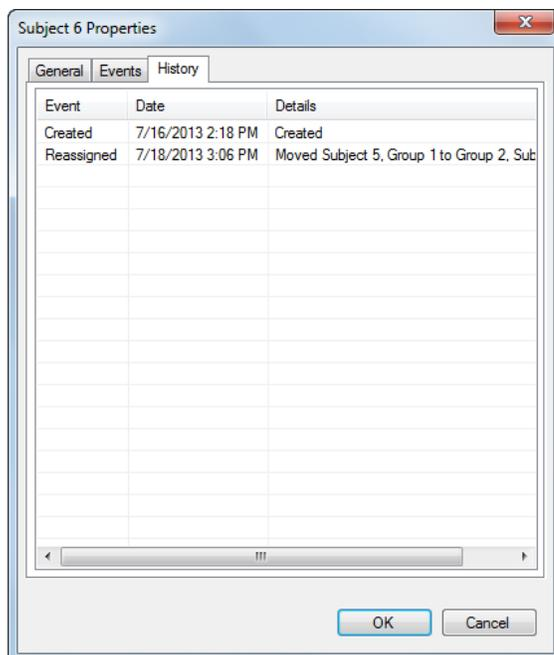

Figure 5-14. Subject Properties Window, History Tab
1. On the Experiment tab, select one or more scans and click the **Reassign Scan** button. (CTRL + click or Shift + click to select multiple scans.) The Reassign Scans window opens as shown in Figure 5-14.
When the reassignment is complete, the scans display in the destination group or subject. The scans are renumbered automatically if the scan number already exists in the destination subject, and the reassignment is recorded in the Subject Properties on the History tab (Figure 5-14).